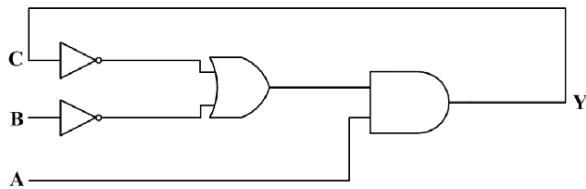

Fig. 3.15: Image
27. For the given digital circuit in Fig. 3.15, $A = B = 1$. Assume that AND, OR, and NOT gates have propagation delays of 10ns, 10ns, and 5ns respectively. All lines have zero propagation delay. Given that $C = 1$ when the circuit is turned on, the frequency of steady-state oscillation of the output Y is _____. (GATE IN 2023)